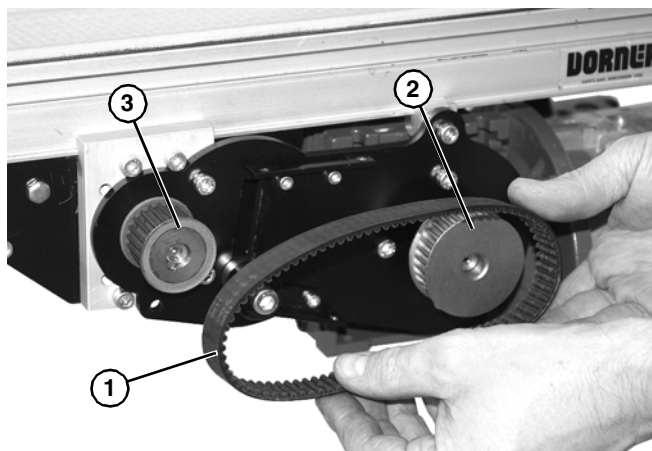

Figure 16
3. Remove timing belt (Figure 16, item 1).
If timing belt does not slide over driven pulley (Figure 16, item 3) flange, loosen driven pulley set screws and remove pulley with belt (Figure 16, item 1). For re-installation, see steps 7 and 8 of "Bottom Mount Mid Drive Assembly" story on page 8.
4. Install new timing belt around drive pulley (Figure 16, item 2) and driven pulley (Figure 16, item 3).
If drive pulley (Figure 16, item 2) is replaced, wrap timing belt around drive pulley and complete step 3.